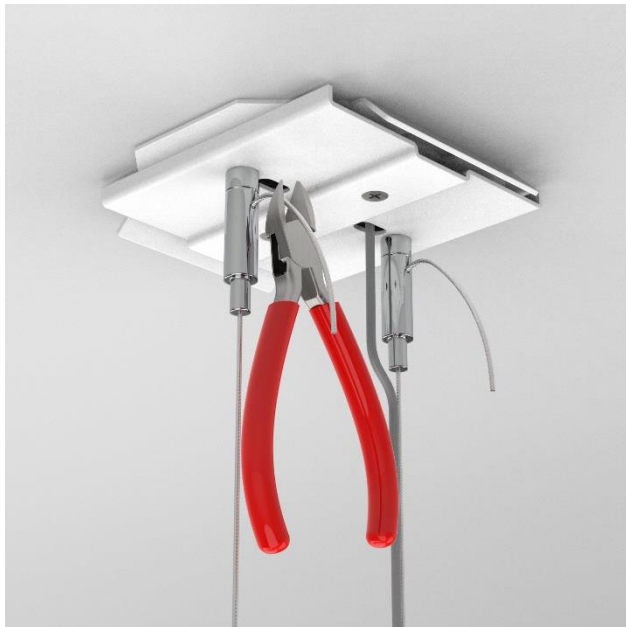

Figure 9
- Using a pair of wire cutters, snip aircraft cables close to the cable gripper. (Fig 9)